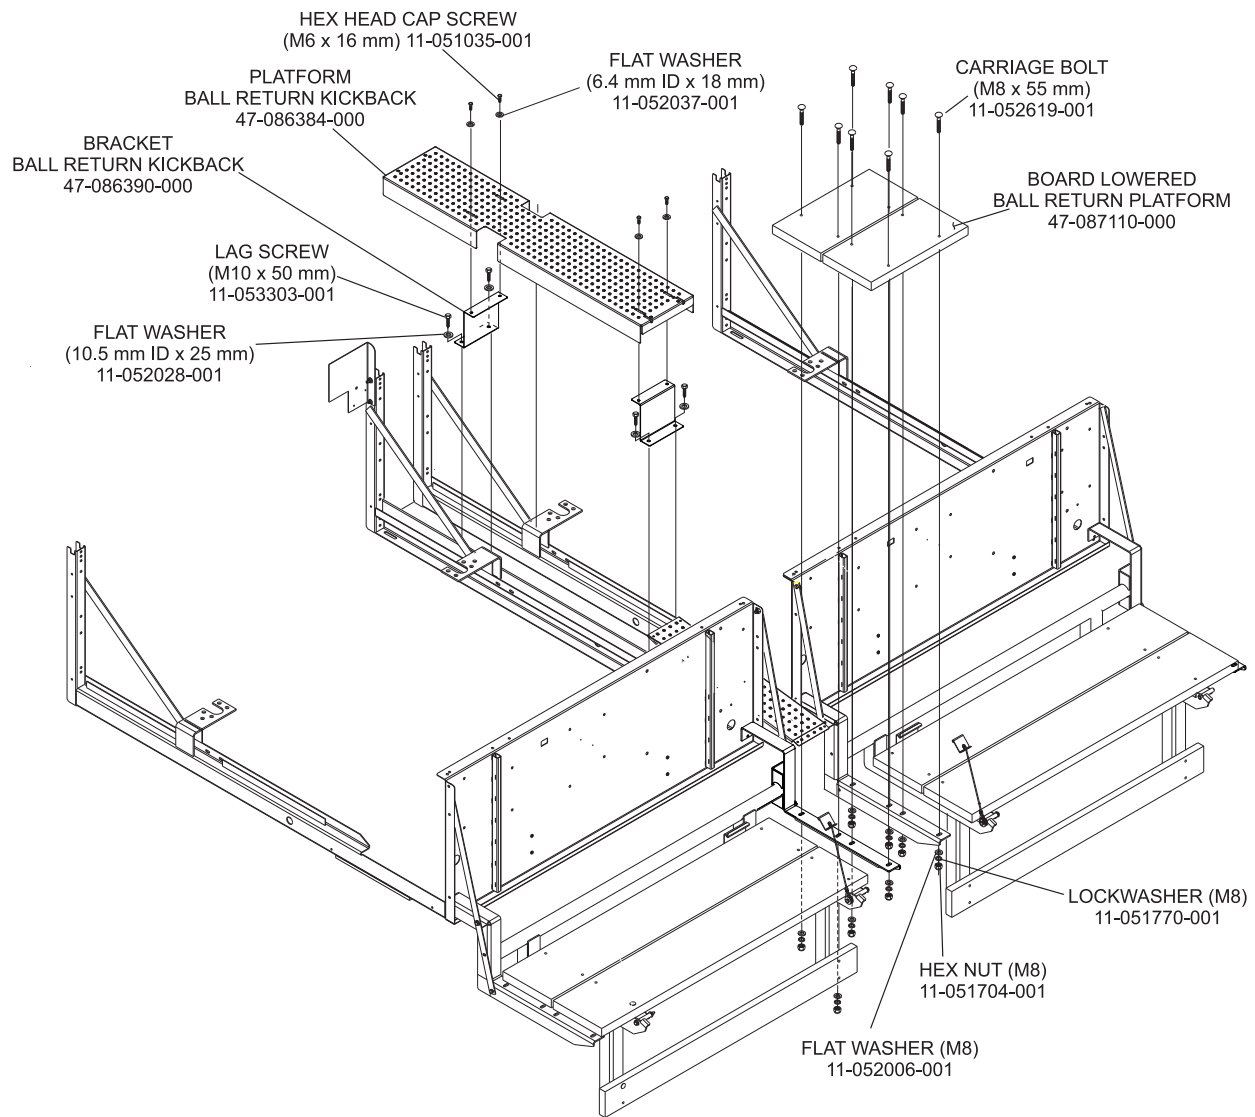

*Figure 6*
- Mount the two pivoting platform boards, 47-087111-000, to the platform hinges using eight each of the following: carriage bolts (M8 x 55 mm) 11-052619-001, flat washers (M8) 11-052006-001, lockwasher (M8) 11-051770-001, and hex nuts (M8) 11-051704-001. Refer to *Figure 6*.